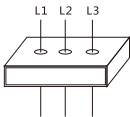
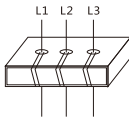

Figure 6 One pass through the for currents above 3A
Figure 7 Multiple passes through the core for currents below 3A
- 1) The three main circuits from the AC contactor to the motor are respectively connected with the motor through the wire hole of the integrated motor controller. When the rated current of the motor is less than 3A, the three-phase main circuit needs to pass the hole for many times. See Table 3 for the number of windings. The product of the minimum signal current passing through the center hole of the integrated motor controller and the number of windings should be greater than 3A. See Figure 6 and Figure 7 for the feedthru diagram of the